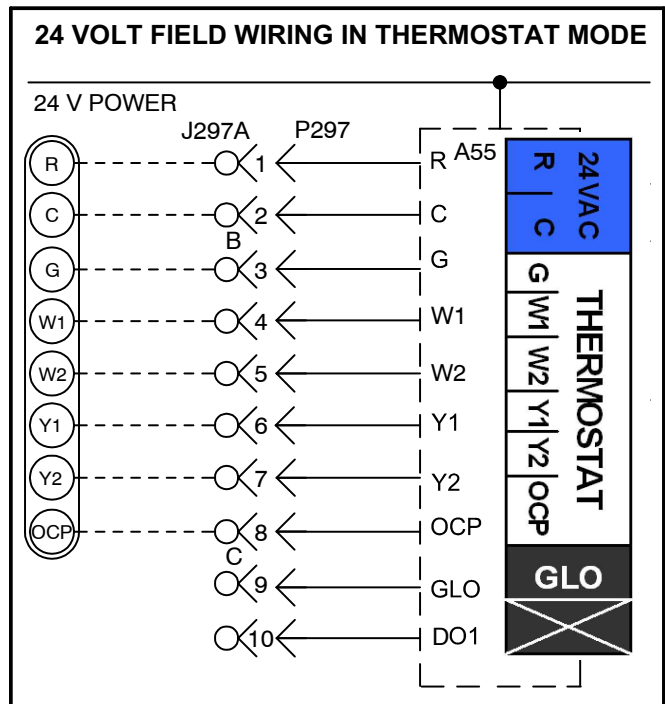
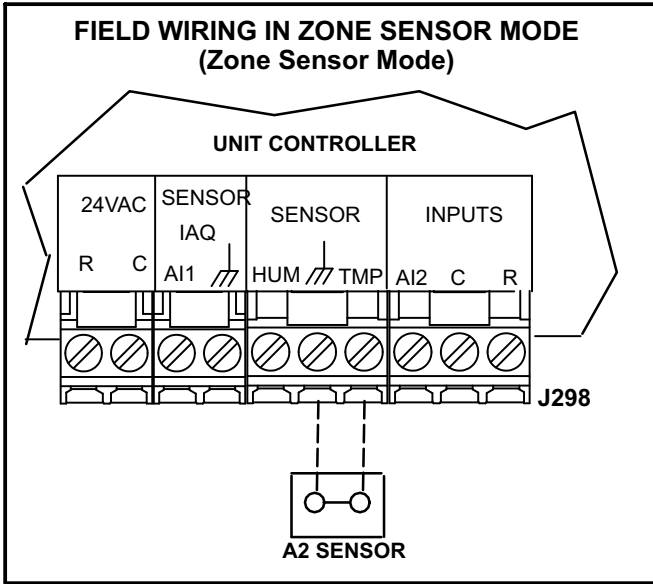
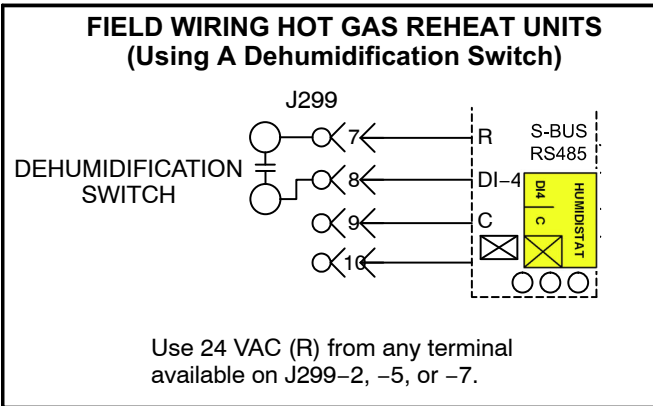
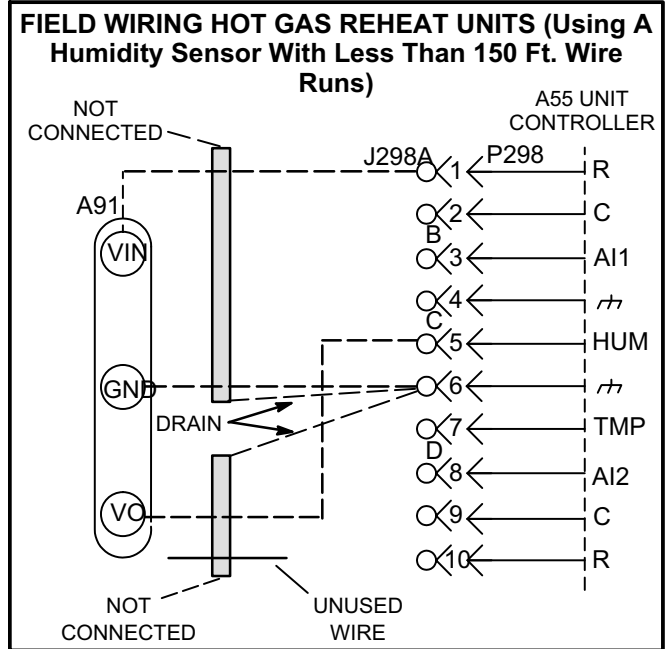

FIGURE 15
FIGURE 16
FIGURE 17
FIGURE 18
- 4- Wire as shown in figure 15 for electro-mechanical and electronic thermostats. If using other temperature control devices or energy management systems see instructions and wiring diagram provided by manufacturer.
The Unit Controller will operate heating and cooling based on the Unit Controller internal setpoints and the temperature from the A2 room sensor. An optional Network Control Panel (NCP) can also be used to provide setpoints. A thermostat or return air sensor can be used as a back-up mode. Make room sensor wiring connections as shown in figure 16.
- 2- Make wiring connections as shown in figure 15 for Thermostat Mode or figure 16 for Zone Sensor Mode. In addition, connect either a humidity sensor or a dehumidification input. See figure 18 or 19 for humidity sensor wiring or figure 17 for dehumidification input wiring.
Use two separate shielded cables containing 20AWG minimum, twisted pair conductors with overall shield. Belden type 8762 or 88760 (plenum) or equivalent. Connect both cable shield drain wires to the Unit Controller as shown in figure 18.
Use two separate shielded cables containing 18AWG minimum, twisted pair conductors with overall shield. Belden type 8760 or 88760 (plenum) or equivalent. Connect both cable shield drain wires to the Unit Controller as shown in figure 18.